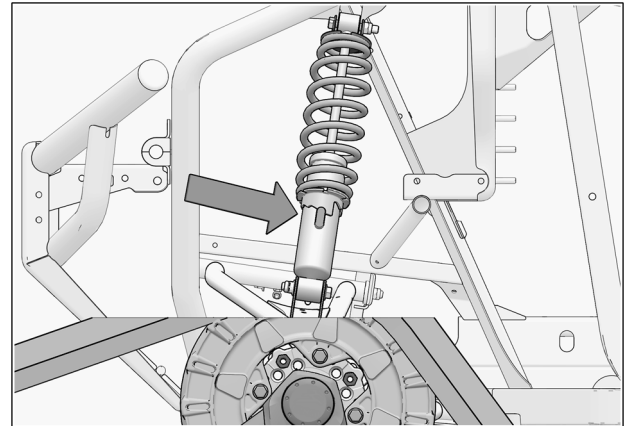

Fig. 21
- Verify the suspension settings. If the shock absorbers are adjustable, adjust them to the stiffest setting to allow for maximum clearance between the System and the vehicle's fenders. See Fig. 21